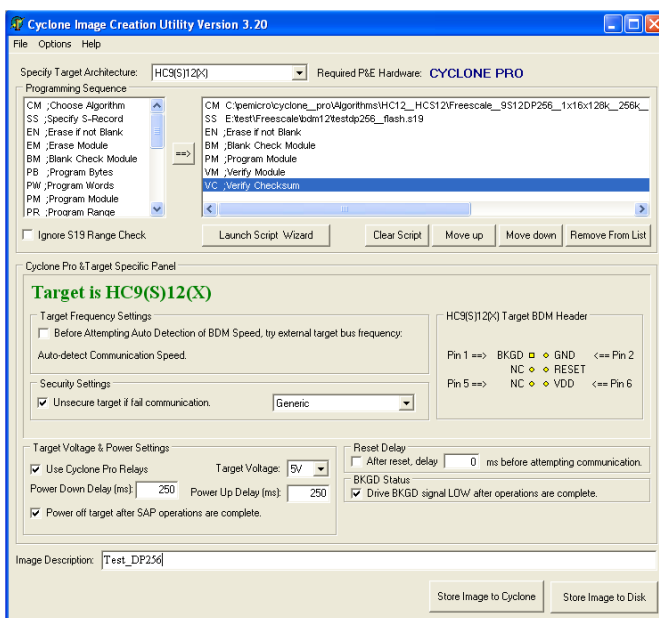

Figure 5-4: HC9(S)12(X) Class Settings
Figure 5-4 shows the HC9(S)12(X) specification configuration.